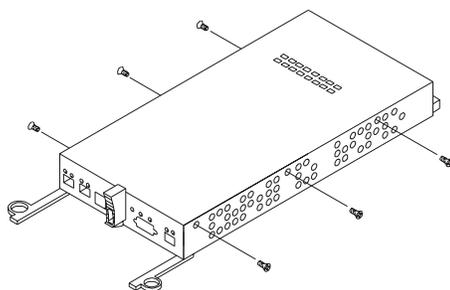

Figure 54. Controller battery-access panel screws
6. To remove the cache battery, place the RAID controller CRU bottom up on a flat surface. Using a #2 Phillips head screwdriver, remove the six screws (three on each side of the RAID controller) that hold the RAID controller bottom panel to the sides of the RAID controller, as shown in Figure 54 on page 67.
the RAID controller) that hold the RAID controller bottom panel to the sides of the RAID controller, as shown in Figure 54 on page 67.
9. To remove the cache battery, place the RAID controller CRU bottom up on a flat surface. Using a #2 Phillips head screwdriver, remove the six screws (three on each side of the RAID controller) that hold the RAID controller bottom panel to the sides of the RAID controller, as shown in Figure 54 on page 67.